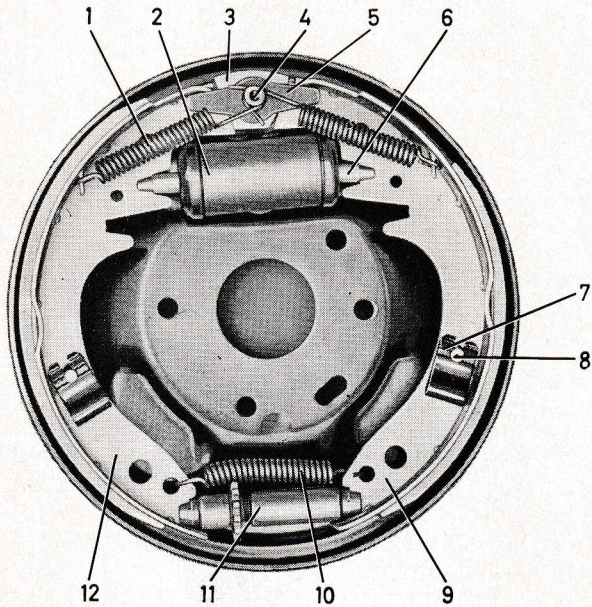
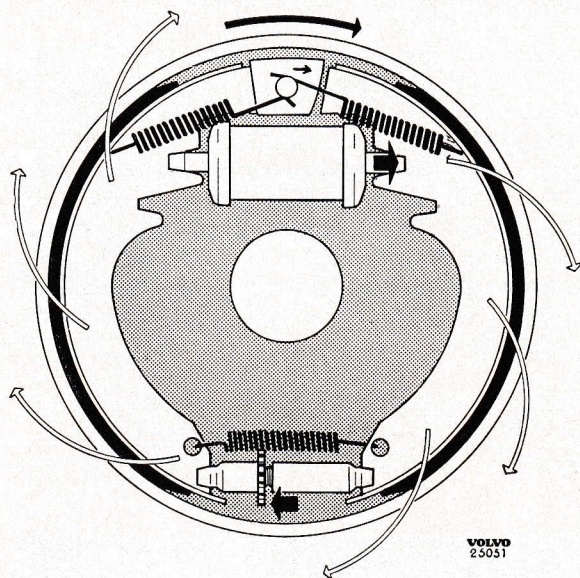

Fig. 10. Wheel brake unit, late production, right-hand front wheel.
Fig. 13. Method of application of wheel brake unit.
When the brake is applied, the wheel unit cylinder plungers press out the shoes against the brake drum by means of the plunger rods (6, Fig. 10). Because of the friction between the drum and lining, the shoes will follow round in the direction of rotation of the drum. Due to the "floating" attachment of the shoes, the primary shoe (9) is pressed downwards and the secondary shoe (12) upwards until its upper end encounters the centring block (see Fig. 13). The end of the secondary shoe is then displaced by the block so that the shoe is centred in relation to the drum. Since the pivoting centre of the secondary shoe is at the anchor stud (4, Fig. 10) and that of the primary shoe at the adjusting device, friction between the drum and lining will assist with applying the brake, see Fig. 13. This action is also assisted by the fact that the primary shoe tends to follow round in the direction of rotation of the drum, which assists the application of the secondary shoe.
Wheel brake units of this type were at first provided with longer linings than those shown in Figs. 10 and 11.